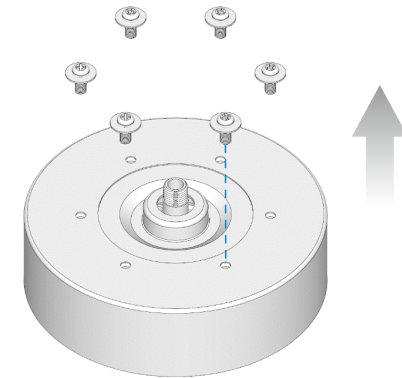

Fig. 2.1
2.1 Remove the blade screws from the motor head, as illustrated in Fig. 2.1.